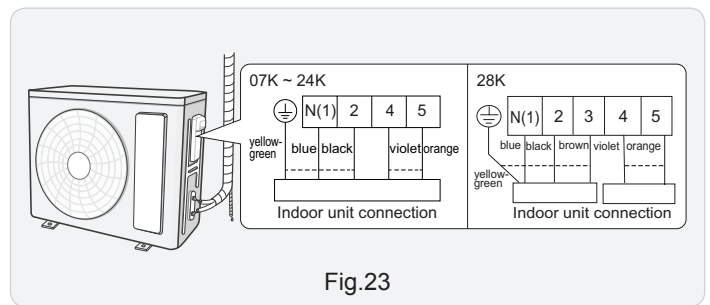

Fig.23
(1) Remove the wire clip; connect the power connection wire and signal control wire (only for cooling and heating unit) to the wiring terminal according to the color; fix them with screws. (As show in Fig.23)
(2) Fix the power connection wire and signal control wire with wire clip (only for cooling and heating unit).